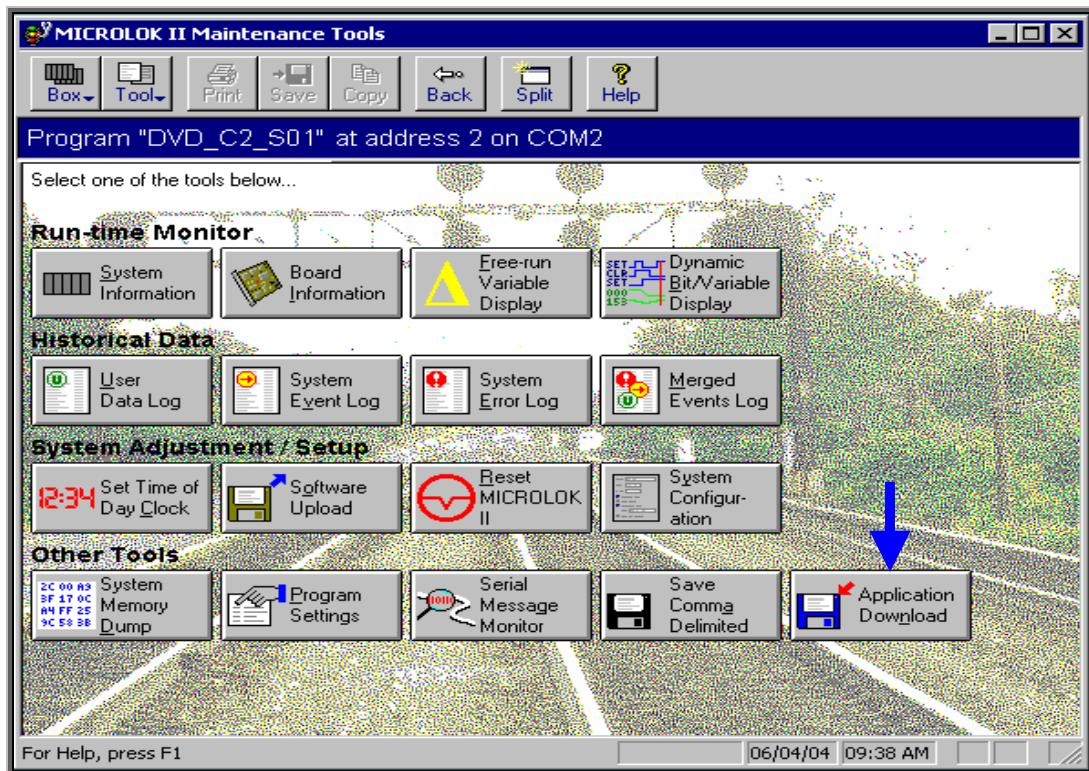

Figure-5.10.1
- ❖ To view the Application Download click on the “Application Download” option in the Maintenance Tools main menu (Figure-5.10.1).